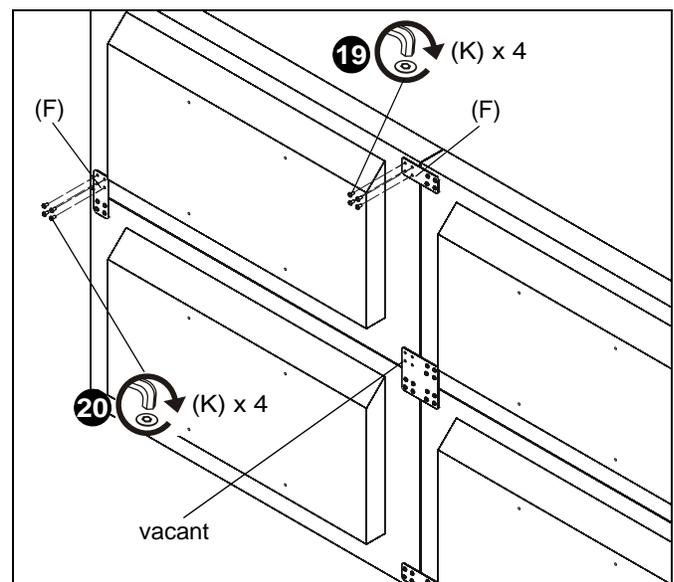

Figure 13
19. Install four M4 x 8mm security screws (K) through holes of edge attachment bracket (E) and into upper left holes of upper right display. (See Figure 13)
20. Install four M4 x 8mm security screws (K) through holes of edge attachment bracket (E) and into lower right holes of upper right display. (See Figure 13)